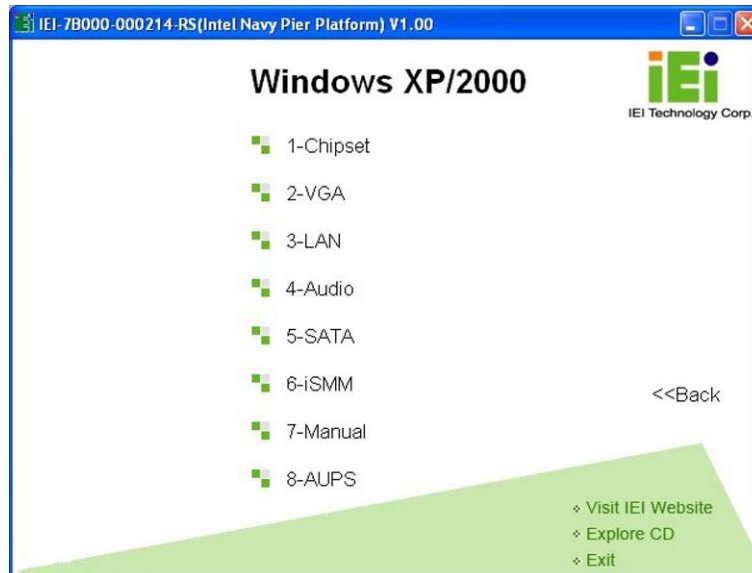

Figure 6-3: Drivers
Step 6: The list of drivers in **Figure 6-3** appears.
Step 1: Access the driver list shown in **Figure 6-3**. (See **Section 6.2**)
Step 1: Access the driver list shown in Figure 6-3. (See Section 6.2)